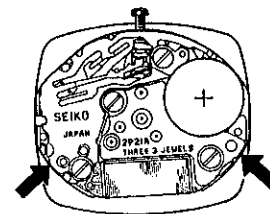

Fig. 1
⑨ Circuit block cover
- 2) Set the circuit block cover so that its hook catches the main plate. (Fig. 1 & 2)
- 3) Set the hole "A" of the circuit block cover onto the guide pin and hook the yoke portion to the protrusion of the setting lever. (Fig. 1 & 3)